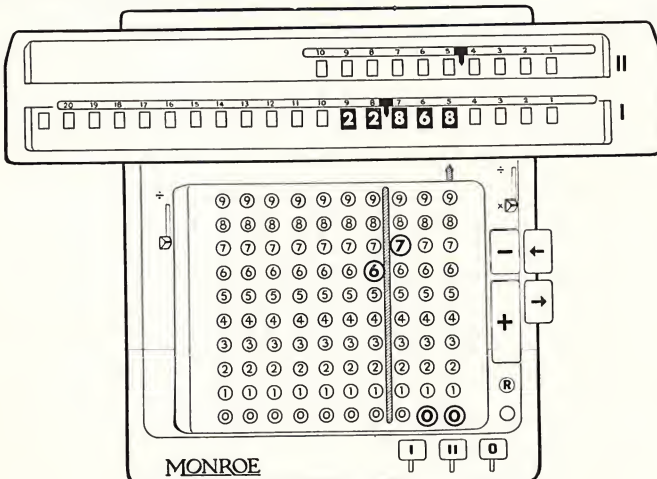

Figure 11
Step 6—Set 6.7 on the keyboard so that it appears as 6.700. With the carriage in “5” position push divide lever (Figure 11).